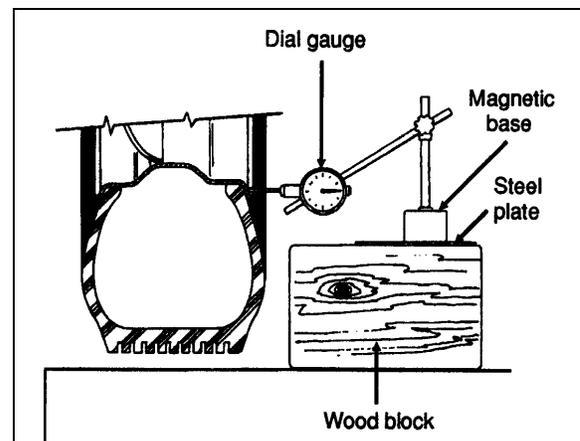

FIGURE 3: DIAL GAUGE INSTALLATION
| FIGURE 3: DIAL GAUGE INSTALLATION | 13-5 |
2. Check wheel lateral runout. Install a dial gauge as shown in figure 3, then rotate the wheel by hand one full turn. As the wheel turns, note any variation on the dial gauge;